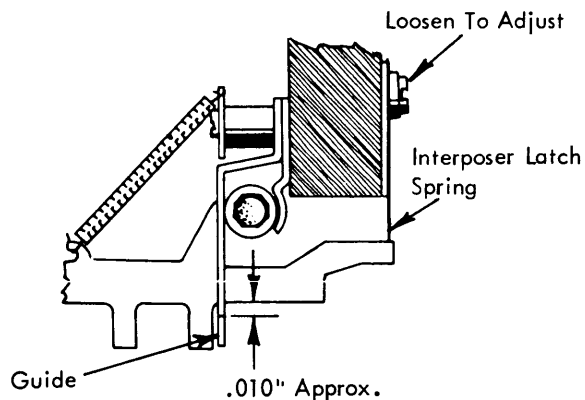

FIGURE 4. Interposer Latch Spring Adjustment
4. Interposer Latch Springs (Preliminary) With the +/- interposer (position 44) latched down, adjust the right hand end of the right hand section of latch springs so that there will be approximately .010" remaining travel of the +/- interposer before it bottoms (Fig. 4). Check this clearance by pulling the interposer down with a spring hook.